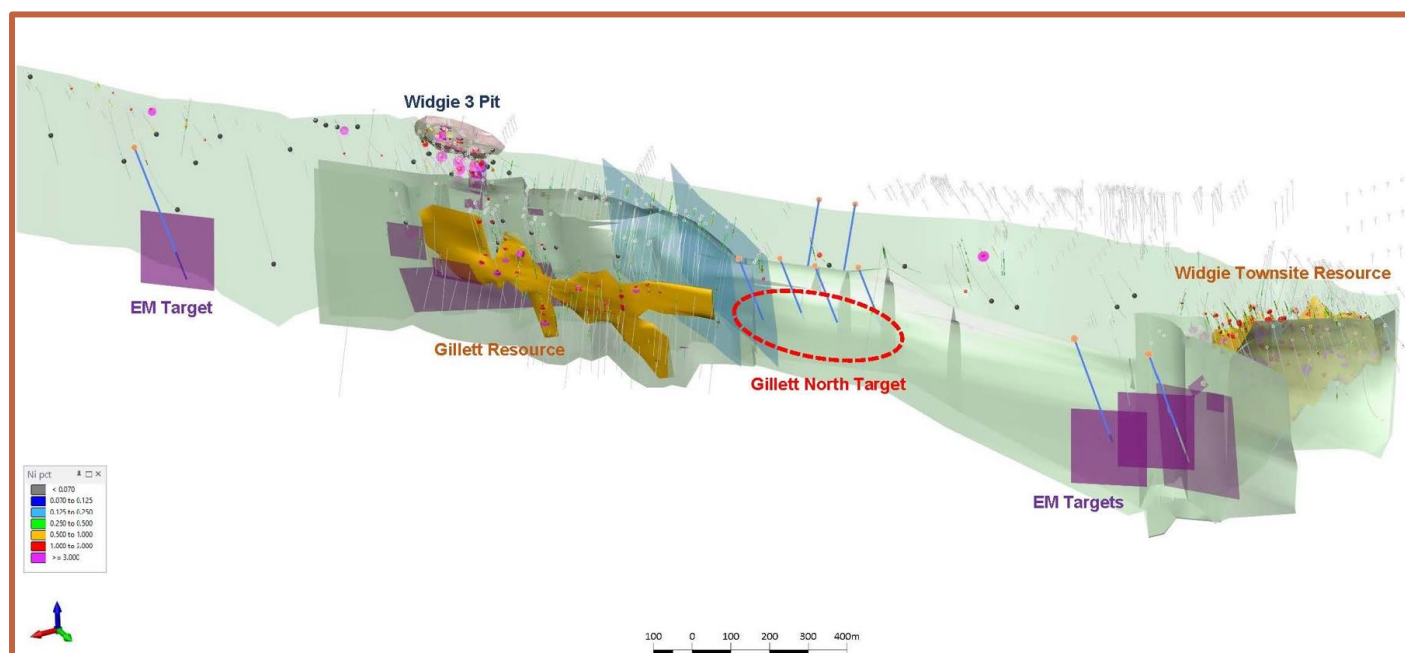

Figure 4 – Oblique long section looking west showing additional drill targets proximal to the current Gillett Mineral Resource
Whilst the assays reported herein relate to the Gillett mineralisation, a number of drillholes completed highlight the potential for mineralisation to extend beyond the current drilling envelope. To test this, downhole electromagnetic (EM) surveying is planned to be completed on a number of holes at the northern and southern end and down dip from Gillett (Figure 4).
Furthermore, drilling is also planned to target historically identified EM plates which are interpreted to be more conductive and therefore represent the more prospective zones of the interpreted basal contact. These EM targets are proximal to both the Gillett and Widjie Townsite mineralisation. Figure 4 shows the location of these planned drillholes.